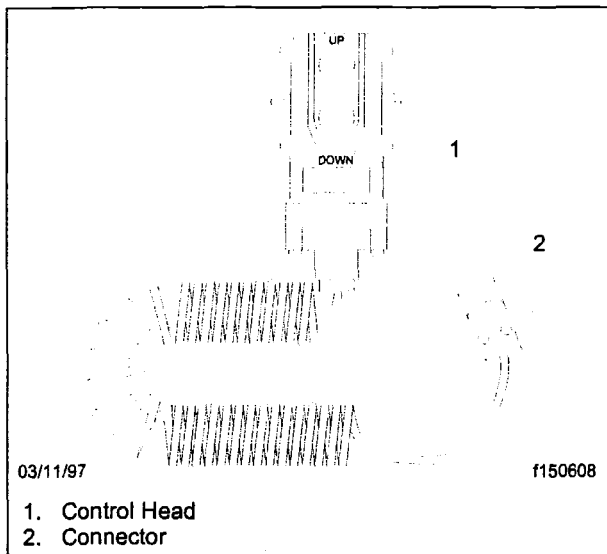

Fig. 1, Cab-Tilt Control
1. Connect the tilt control and activate the down button to ensure the cab is completely down. See Fig. 1.